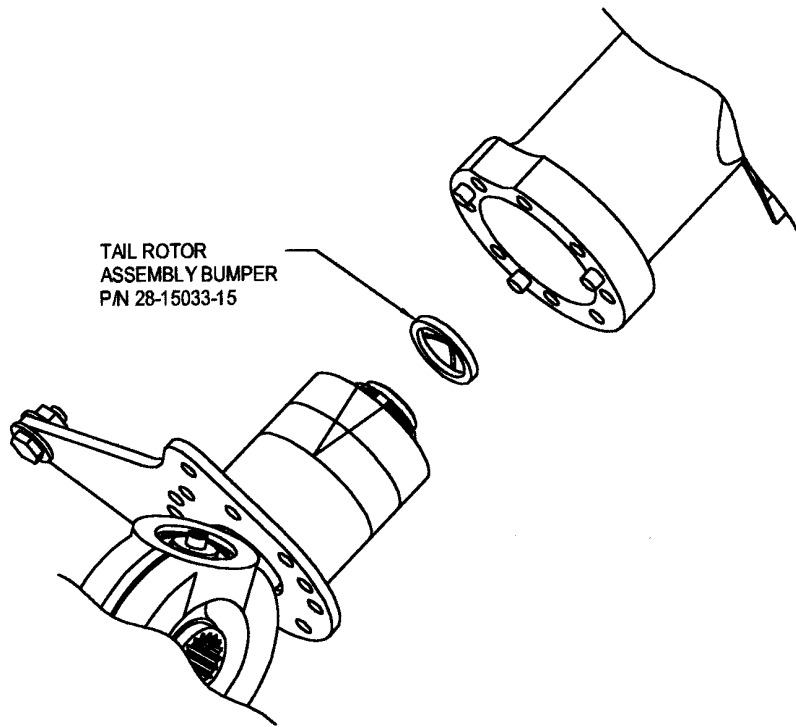

Figure 1
B. Replace the 28-15033-13 bumpers with the new 28-15033-15 bumpers anytime the tail rotor assembly is disassembled (Refer to Figure 1). Replace the tail rotor bumpers using the procedures found in the applicable maintenance manual for the helicopter with the exception that the bumpers are not glued onto the end of the spindle.